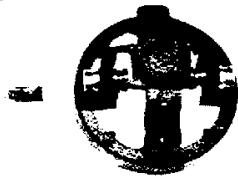

Figure 2
5. Check motor brushes periodically. They are readily accessible by unscrewing brush cap (see figure 2). In general, brushes should be replaced when they are worn to about 1/4" length. To renew, order set of two complete assemblies, and be sure to replace brushes with radius fitting the contour of the armature as shown in figure 2. Then tightly screw on brush cap.